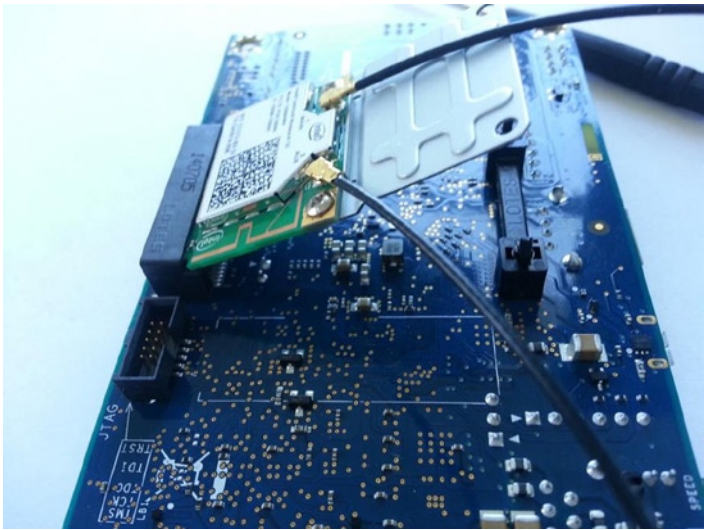

Figure 5-3. Connecting the WiFi card and bracket at an angle
4. Insert the WiFi mini-PCIe card at an angle, making sure the card's contacts are connected to the slot, as shown in Figure 5-3.